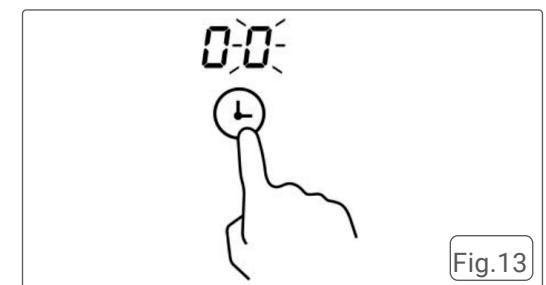

Fig.13
2. Touch the Timer key. The display will show "00" and "0" will blink. Fig.13